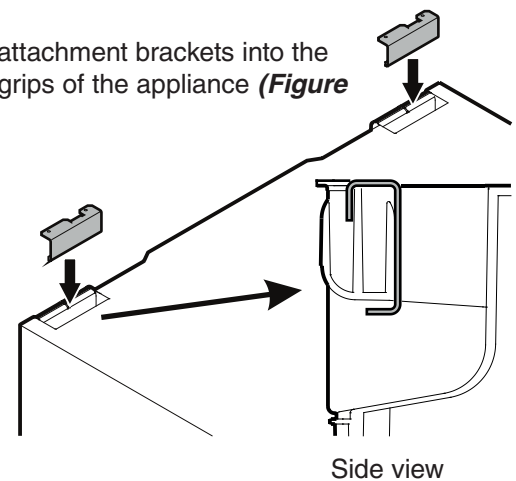

Figure 11
2. Clip both attachment brackets into the transport grips of the appliance (**Figure 11**).